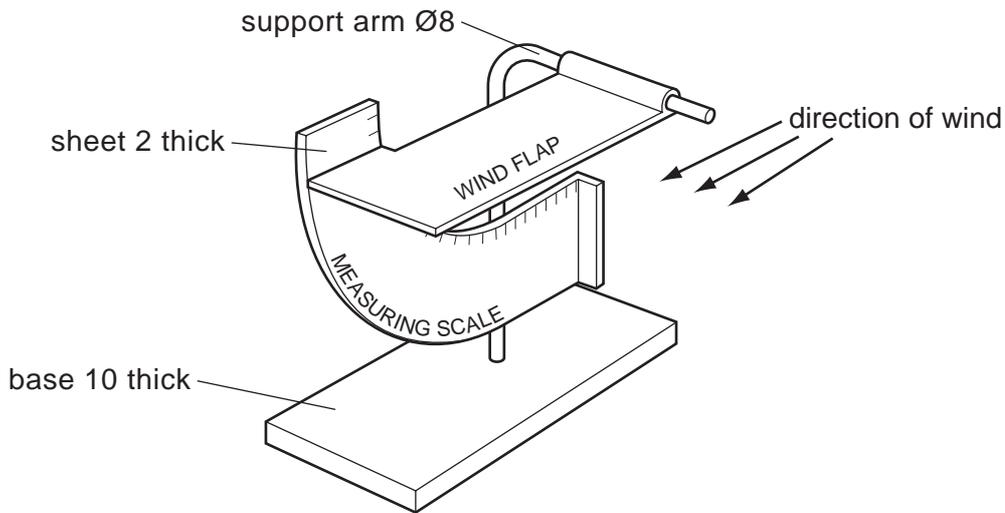

Fig. 8
- 12 Fig. 8 shows a wind speed indicator for use in school. As the wind blows, the wind flap is lifted and the speed can be read off the measuring scale. The device is made from mild steel except for the wind flap which is made from aluminium.